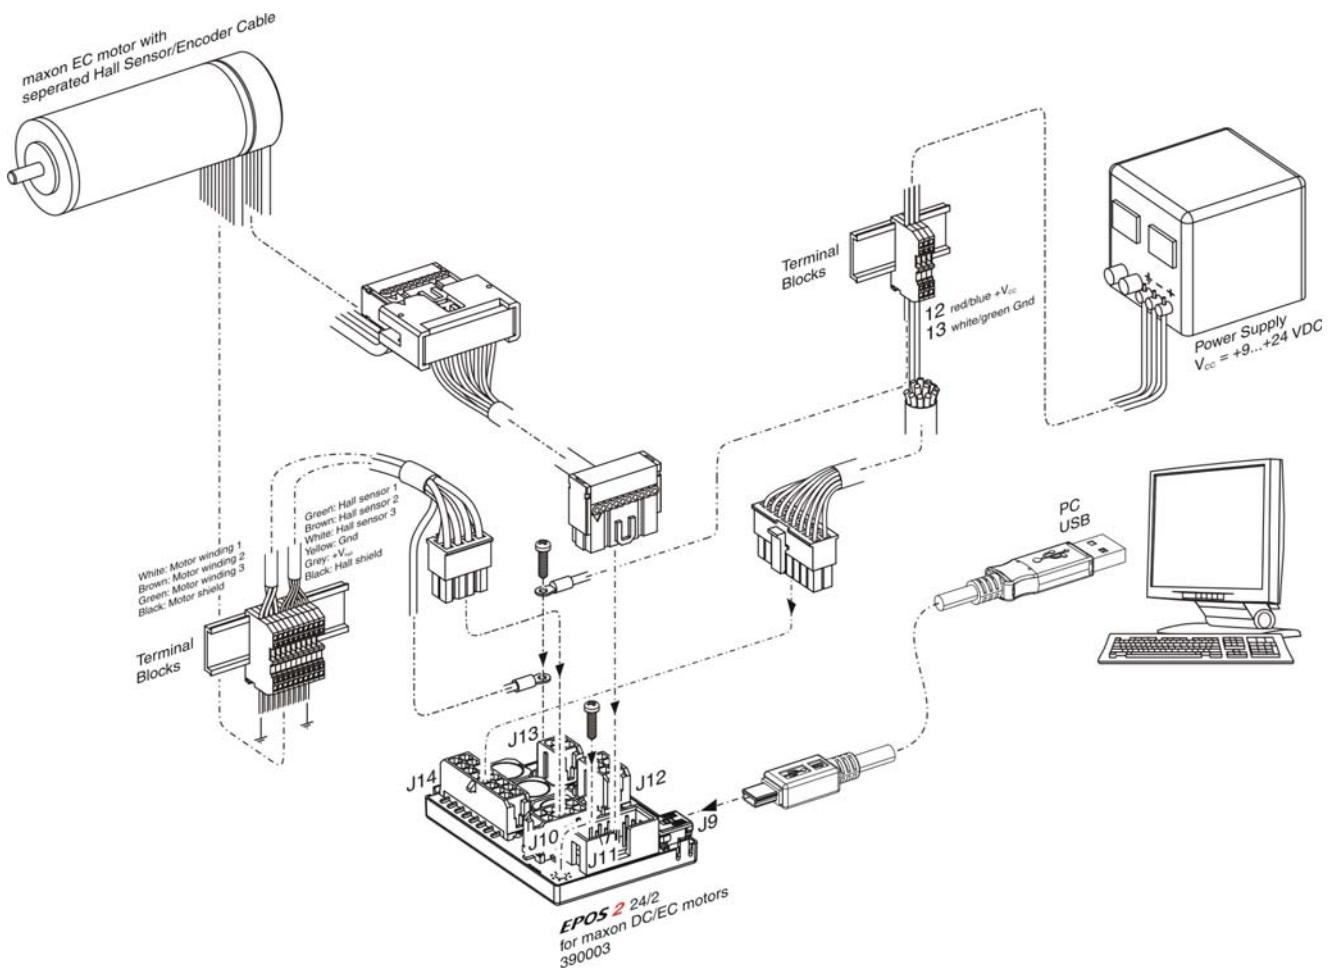

Figure 3-6 Minimum Wiring: maxon EC motor (separated Hall Sensor/Encoder Cable)
- 2) Connect maxon cable assemblies (→Table 3-8 and Figure 3-6).